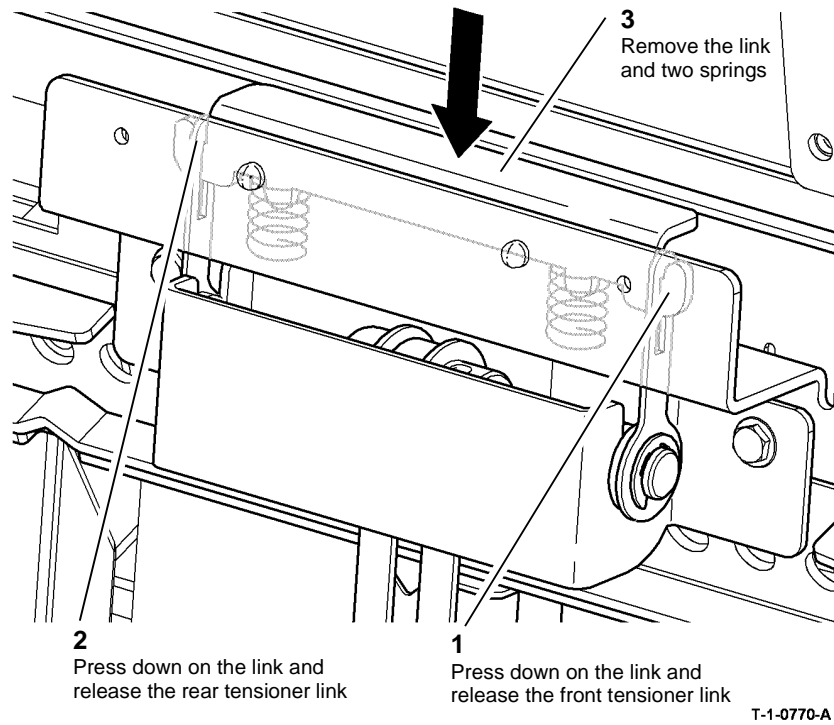

Figure 2 Backstop link removal
11. Figure 2, remove the backstop link.